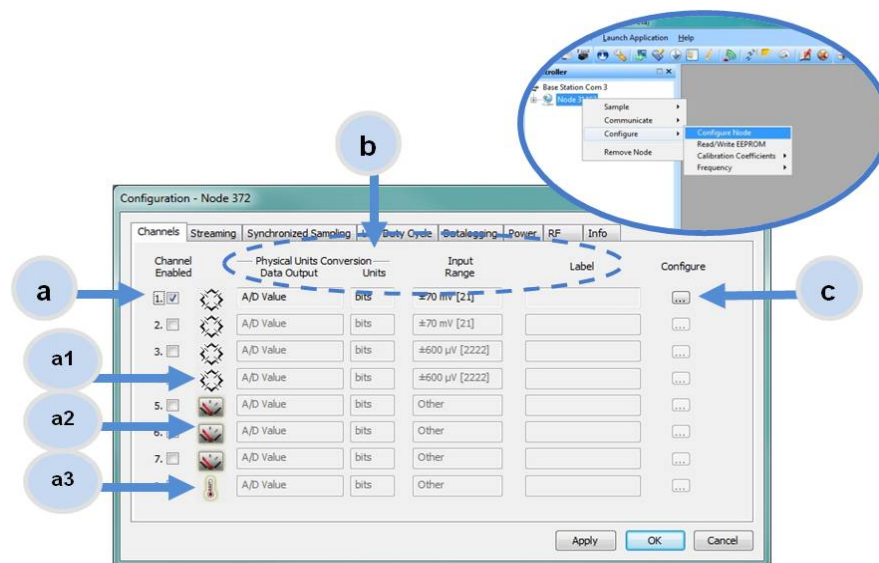

Figure 8 - Node Channels Menu
- a. **Channel Enabled:** indicates the sensor channel number. The check box is used to enable the channel and select it for sampling. The icon next to the check box describes the channel type inherent to the node being used. In the following example (*Figure 8 - Node Channels Menu*): a1) analog differential channel icon, a2) analog single ended channel icon, and a3) temperature channel icon.
2. To enter the channel configuration menu, select the Configure button as shown in Figure 8 - Node Channels Menu. The channel configuration menu options change depending on the sensor type selected.